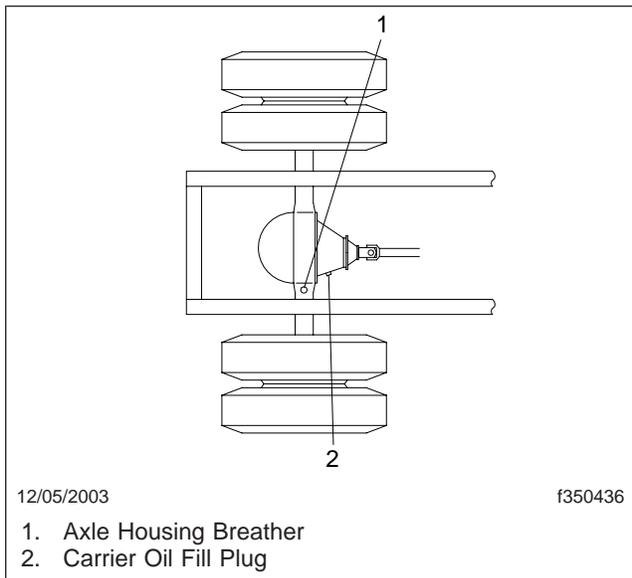
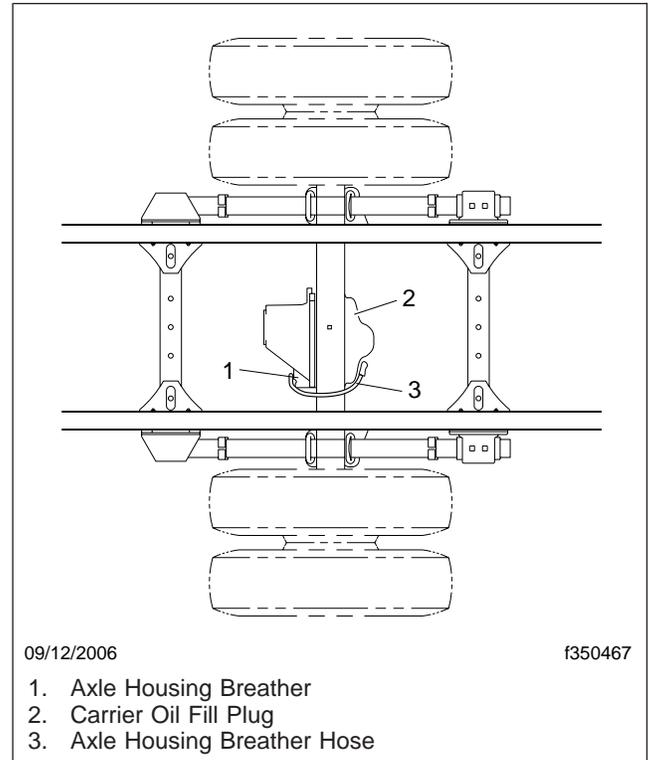

Fig. 1, Meritor Fill Hole Plug and Axle Housing Breather Locations
Fig. 2, Freightliner Fill Hole Plug and Axle Housing Breather Locations
1. Clean the oil fill hole plug located in the carrier or the side of the axle housing and the area surrounding it. See Fig. 1 and Fig. 2. Remove the plug.
The axle housing breather must remain clean. See Fig. 1 and Fig. 2. When the axle lubricant level is checked, check that the axle breather is open. Check more often under poor operating conditions. If the breather is plugged, clean it or replace it as needed.